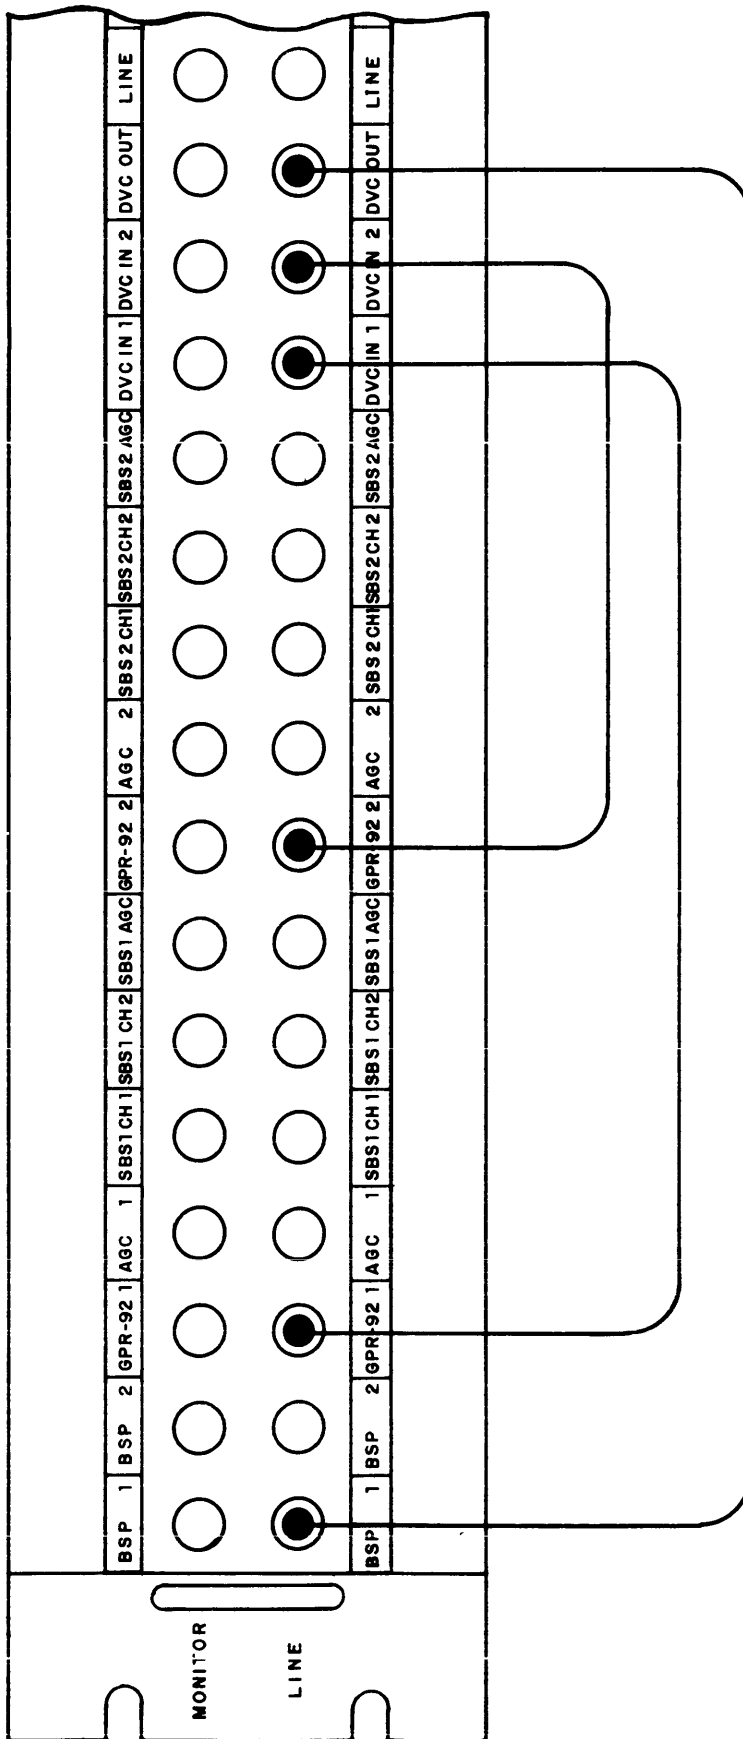

Figure 3-2. Patchcord Connections, Diversity Voice Combiner
(1) Make patch-cord connections on Line Patch Panel LPP-4 as illustrated in figure 3-2.
(2) Start the DDR-8 as outlined in paragraph 3-3b; disregard all references to controls and indicators located on Automatic Frequency Control AFC-2A No. 1 and AFC-2A No. 2 and Sideband Selectors SBS-1 No. 1 and SBS-1 No. 2.
(3) Set front-panel controls of both GPR-92 receivers as follows: